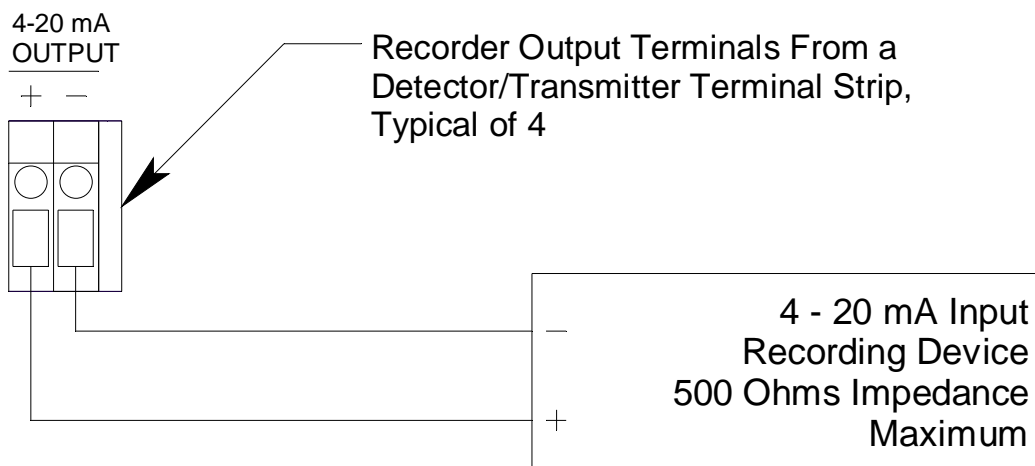

Figure 14: Recorder Output Wiring
6. Connect the leads from the recording device to the recorder output terminals of the selected active channels as shown in Figure 14 below.